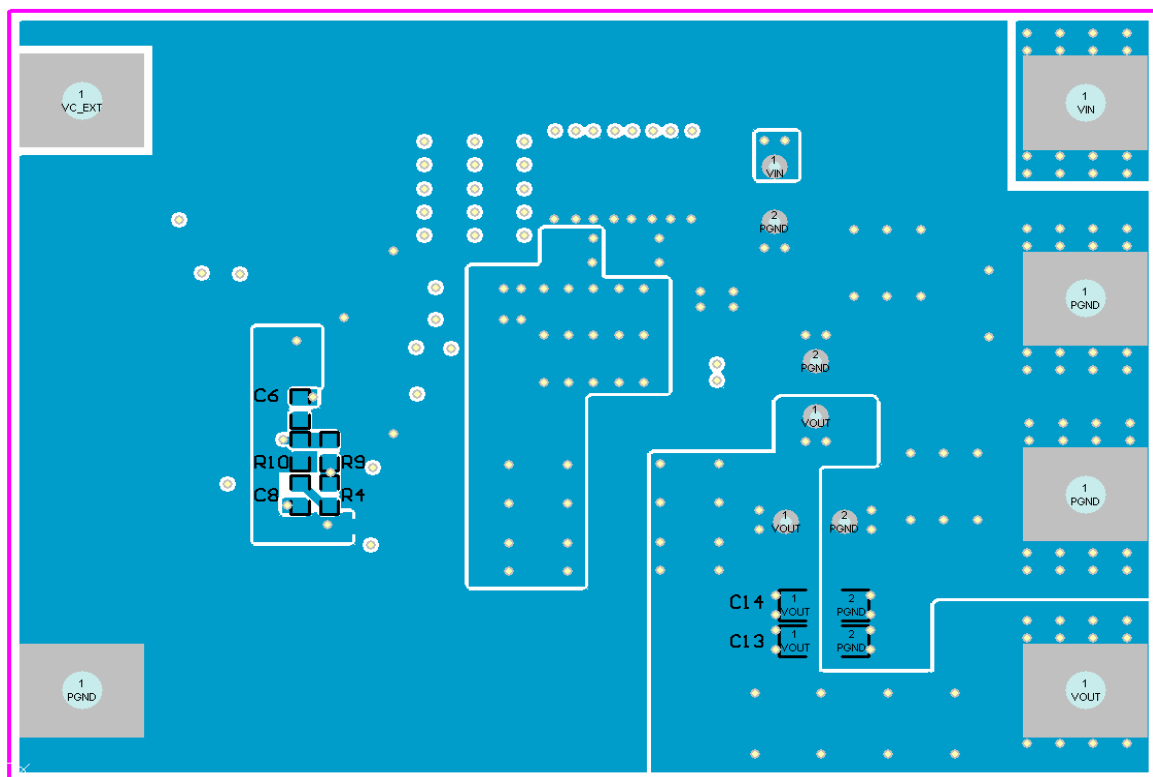

Figure 3d: IRPP3637-18A Reference Design bottom layer layout.
3. A solid ground plane is furnished in mid-layer 2. The connection of the signal ground to power ground is done at a single point in the bottom layer as shown in figure 3d.